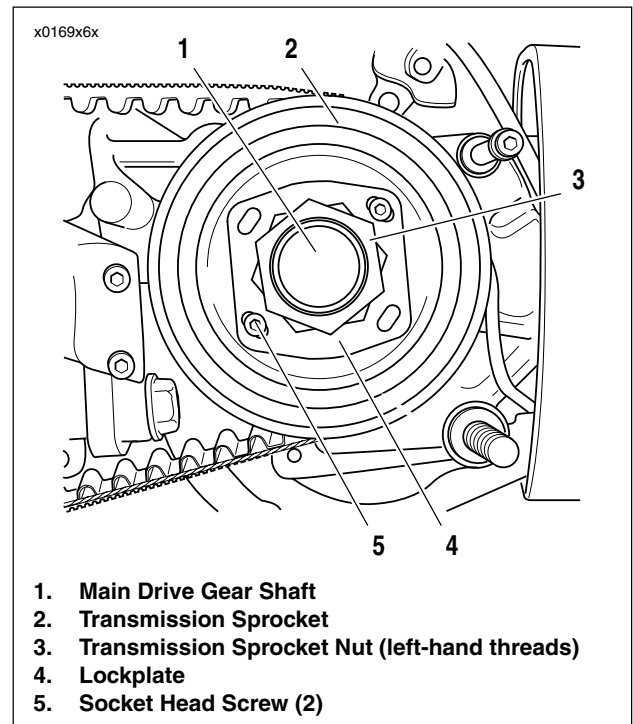
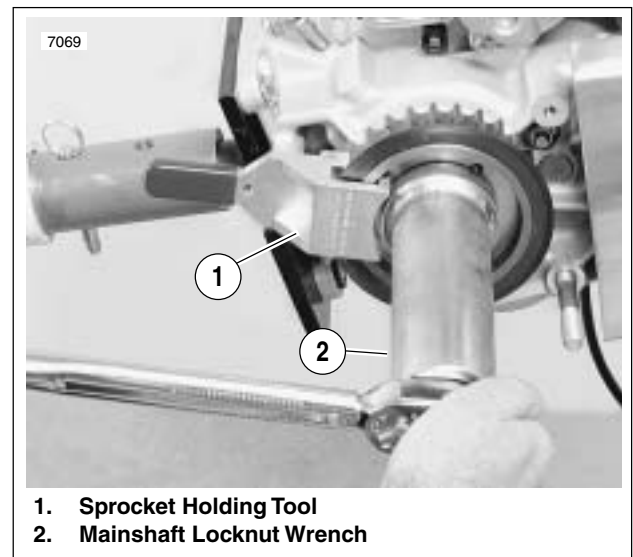

Figure 6-62. Transmission Sprocket
Figure 6-63. Transmission Sprocket Tightening
9. See Figure 6-62. Increase belt deflection by loosening rear axle and moving rear wheel forward. Install transmission sprocket (2) with secondary drive belt onto main drive gear shaft (1).
11. Apply a few drops of LOCTITE THREADLOCKER 262 (red) to the **left-hand threads** of transmission sprocket nut (3). Position nut with washer-faced side facing transmission sprocket. Turn the nut **counterclockwise** to install it onto main drive gear shaft.
- a. See Figure 6-63. Install SPROCKET HOLDING TOOL (1) (Part No. HD-41321) as shown. Use MAINSHAFT LOCKNUT WRENCH (2) (Part No. HD-94660-37B) and a torque wrench to tighten sprocket nut to 50 ft-lbs (68 Nm) INITIAL TORQUE ONLY.
- d. See Figure 6-62. Install lockplate (4) over nut (3) so that two of lockplate's four drilled holes (diagonally opposite) align with sprocket's (2) two tapped holes.
13. See Figure 6-62. Install two socket head screws (5) through aligned holes of lockplate and into tapped holes of sprocket. Tighten screws to 90-110 **in-lbs** (10-12 Nm).